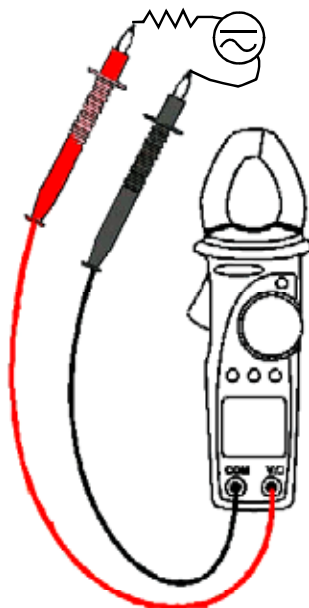

Fig. 5: Use of clamp for AC/DC uA current measures
2. Insert the test leads into the jack, the red lead into “+” jack, and the black lead into the COM jack. Refer to Fig. 5.
5. Press R-H key you can select manually the measurement ranges in cyclic order. Press R-H key 2 seconds to return to the AUTOMATIC range selection.